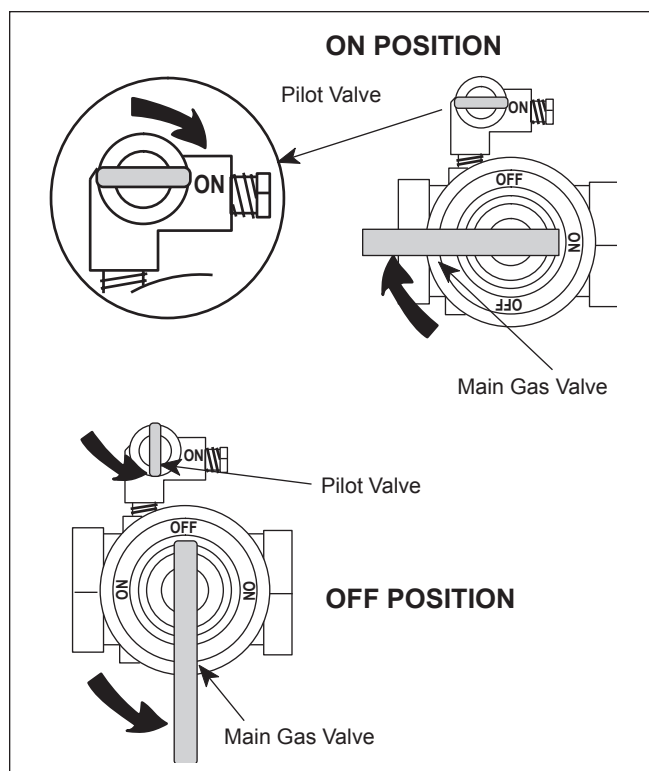

Figure 16. Gas Manual Valves.
2. Turn off all manual gas valves and wait five minutes (see Figure 16).